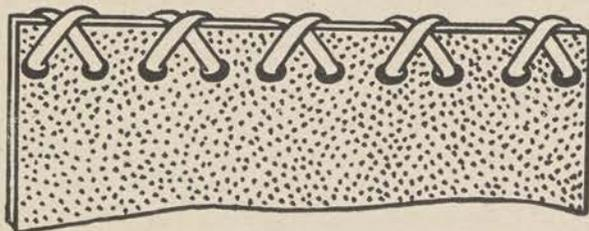

Figure 39.
a. This is simply a double over and over stitch (fig. 39). The thong is pulled through the first pair of holes to its middle point, and the lacing is done